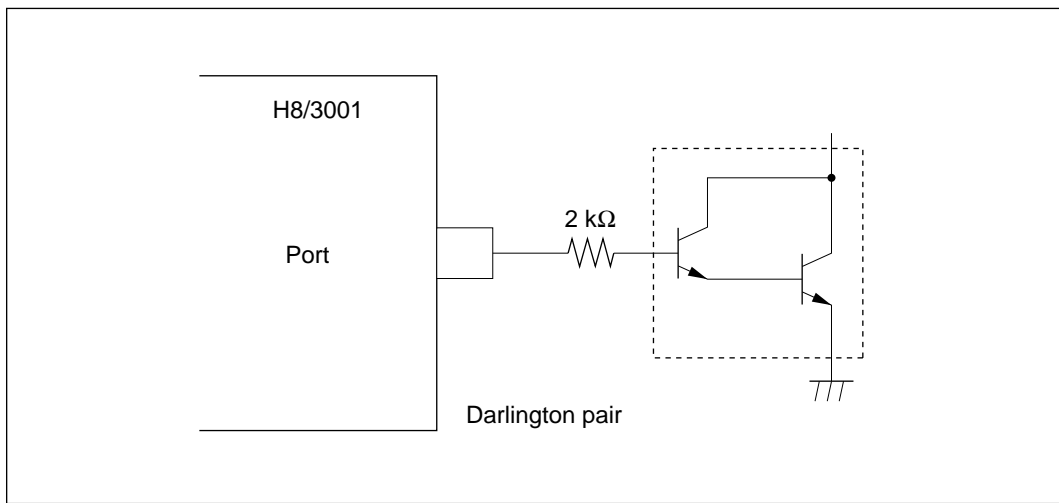

Figure 15-1 Darlington Pair Drive Circuit (Example)
2. When driving a darlington pair or LED, always insert a current-limiting resistor in the output line, as shown in figures 15-1 and 15-2.